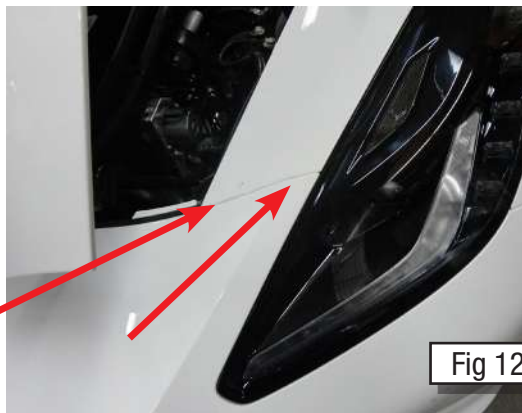
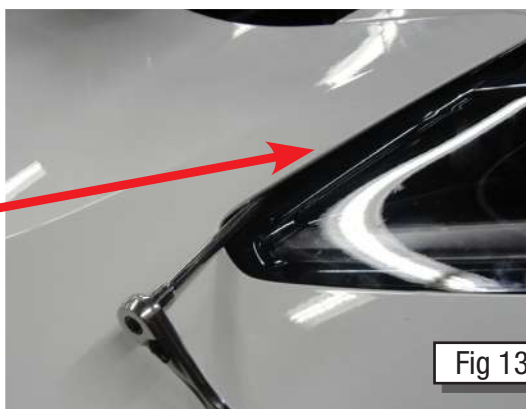

Fig 12.
Fig 13.
14. The last section that holds the nose in place is located towards the center of the car next to each headlight (Fig. 12). These tabs can be released by the use of a screwdriver and plastic trim tool. Or the nose can be lifted up and a ratchet, long extension, and 7mm socket can be used to loosen the two bolts holding the metal clip in place (Figs. 13 & 14). Much care should be taken during this step to not chip any paint off of the nose. Once the clips are released, lift up on the nose and remove it from the car.